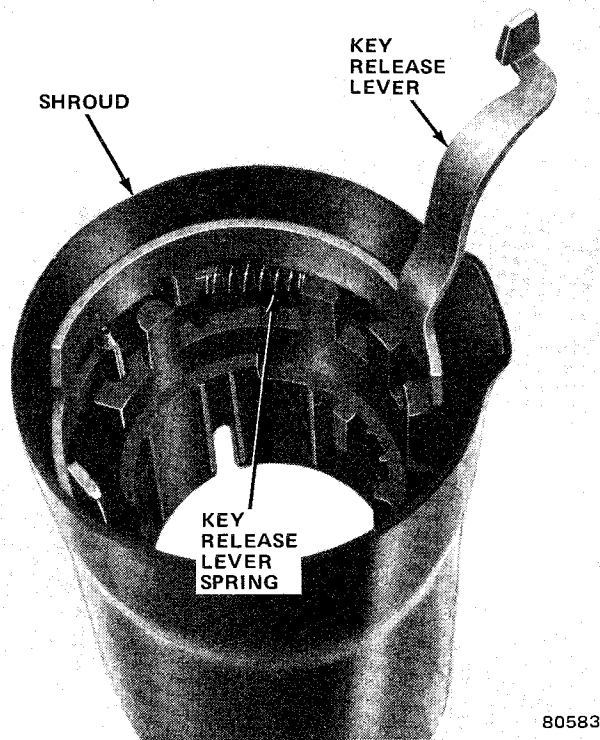

Fig. 2J-61 Key Release Lever and Spring Removal/Installation
(5) Install retainer plate (fig. 2J-59). Tip plate toward 12 O' clock position, slide it under jacket opening, and seat it in column jacket notches.
(6) Align column jacket "V" notch with corresponding "V" on support and install support in column (fig. 2J-62). Press key release lever downward while pressing support into place to seat support fully.
(7) Install all support attaching screws finger tight; Then tighten screws alternately and evenly to 60 inch-pounds torque (fig. 2J-58).
(8) Install remote rod in support. Guide rod through upper end of shroud and insert it into rod slot in support.